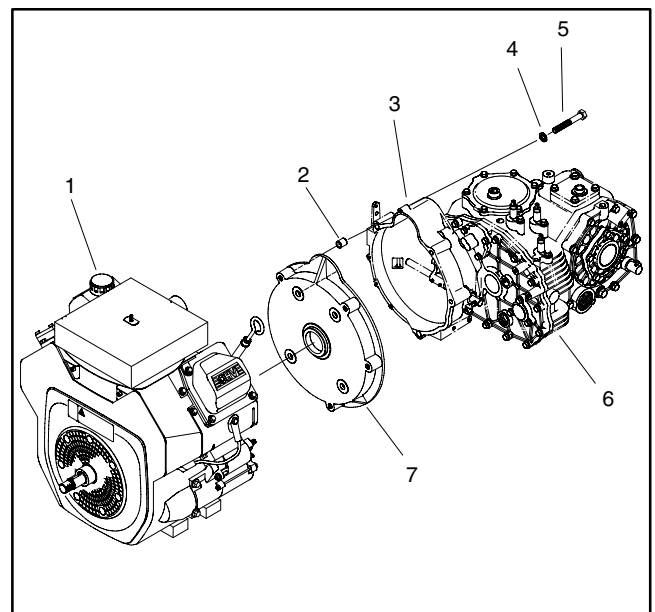

Figure 6
13. Loosen and remove four (4) lock nuts (Item 37), flat washers (Item 38) and cap screws (Item 40) that secure engine to engine mount. Locate and retrieve lock washer (Item 41) from cap screw on right front corner of engine.
14. Remove four (4) cap screws with lock washers that secure clutch bell housing to engine (Fig. 6).
16. Note location and retrieve two (2) bushings (Fig. 6, item 2) from bell housing.